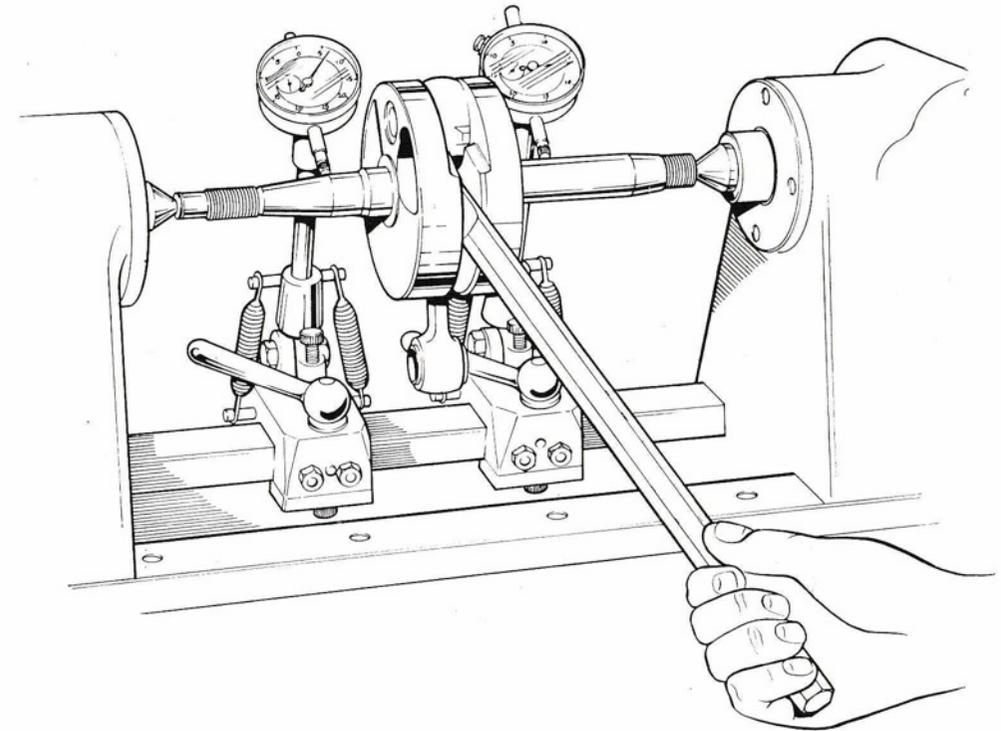

Fig. 22 Springing crankcheeks using a leverage bar.
- 15 Spring the crankcheeks slightly at the point indicated by the gauges, using a leverage bar — this can be carried out with the assembly mounted (see Fig. 22).